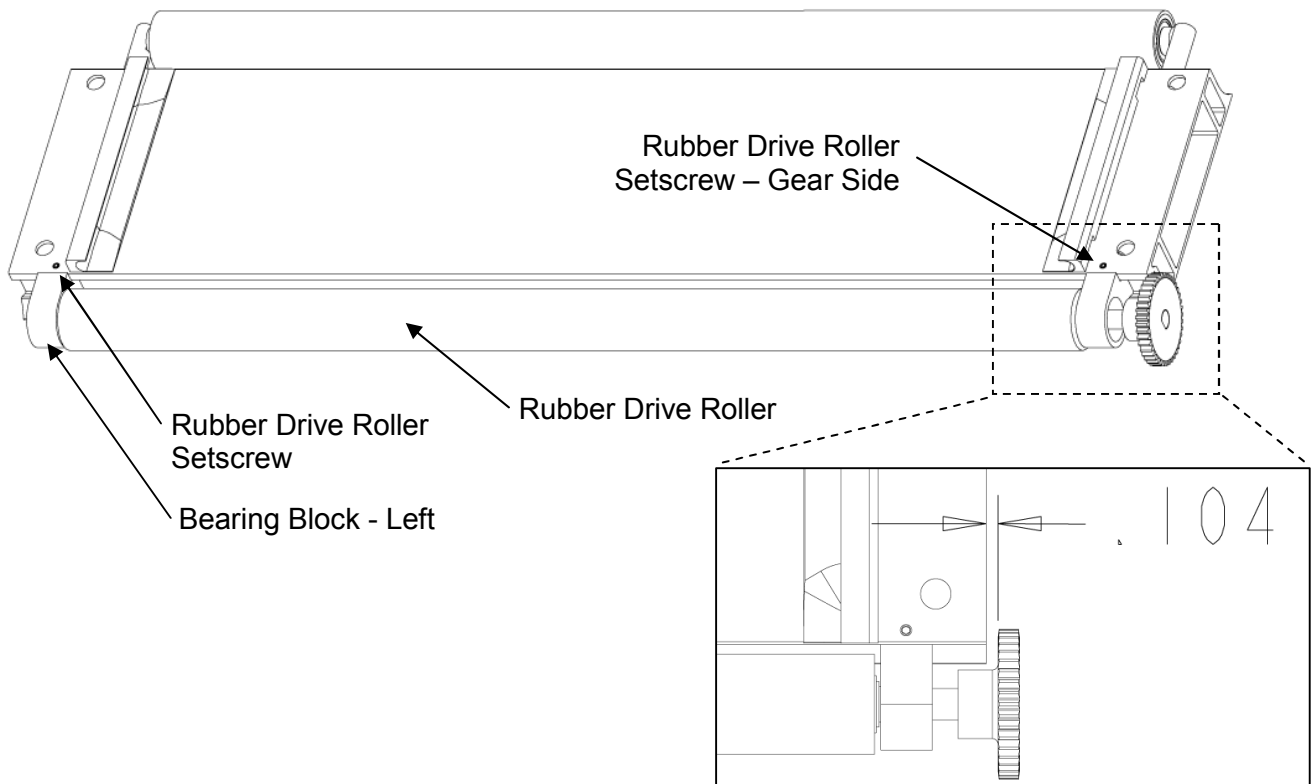

FIGURE 9: CHECKING THE SPACING OF THE DRIVE GEAR
15. **Check for slop in the drive roller.** Grab the rubber drive roller and attempt to move it side to side (in the length direction of the roller). If there is any movement at all you will have to reset this roller. If there is no movement in the roller quickly check the spacing between the inside of the drive gear and the end of the belt plate as shown in Figure 9 by inserting the two stacked dimes. The gap can be slightly larger than the thickness of the two dimes but no less. If the roller is tight and the spacing is correct proceed to Step 17.
16. **Reset the drive roller.** With the supplied 1.5mm Allen wrench loosen and remove both of the rubber drive roller setscrews (see Figure 9). They have thread cement on them so apply a small amount of heat to them if they will not break free. Set the supplied thickness gage block against the end of the belt tray and push the roller assembly over until the gear touches the block. Add thread cement to and insert the setscrew closest to the drive gear. Tighten firmly. Press the left bearing block toward the drive gear so that there is no side to side slop in the roller and insert the thread cemented setscrew (see Figure 9). Tighten firmly. Verify that the spacing is still correct and that there is no side to side slop in the roller.